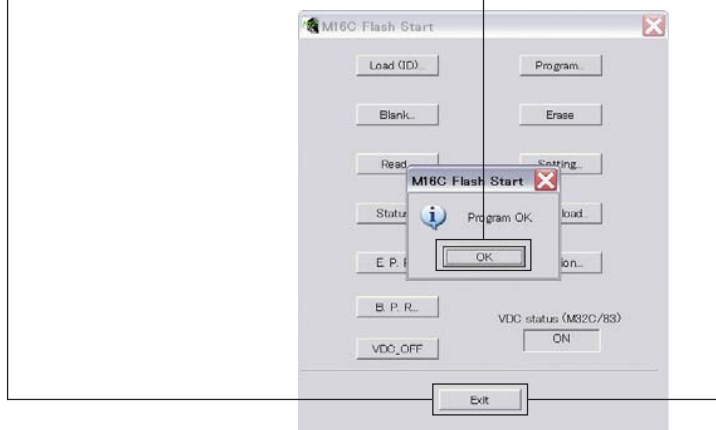

Fig. 7
10. When writing of the firmware is completed, the screen appears as shown below. (Fig. 7)
Click [OK]. (Fig. 7)
11. Click [Exit] to end FlashSta.exe. (Fig. 7)
画面が表示されます。(Fig.7)
[OK] をクリックします。(Fig.7)
(Fig.7)